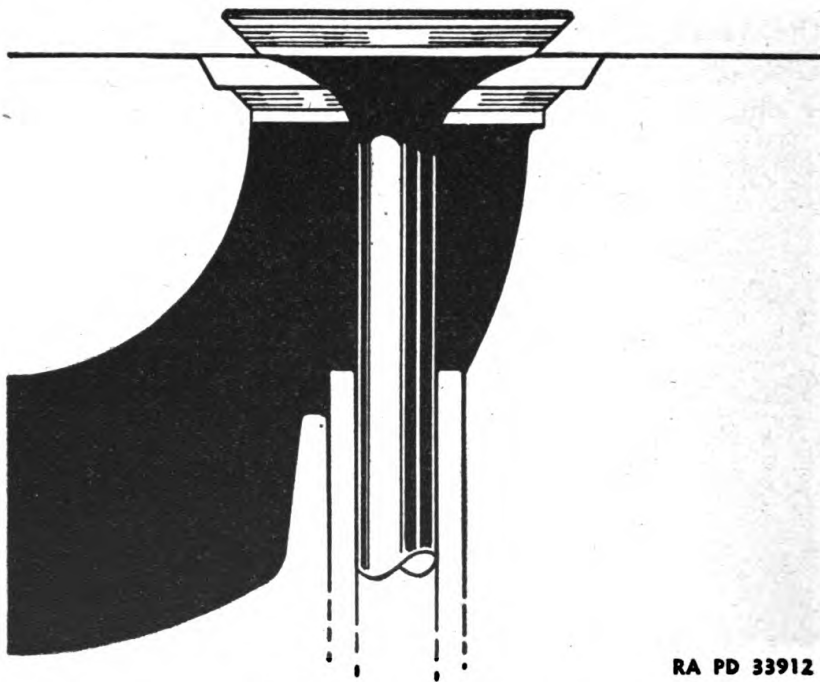

FIGURE 23.—Valve seat.
c. Valve seat widths.—Valve seats (fig. 23) in the cylinder heads are from $1\frac{1}{64}$ inch to $\frac{3}{16}$ inch wide. Originally, the seat contacted the valve in the center of the valve face or $\frac{3}{64}$ inch from the top or from the bottom of the valve face.
(1) It is unnecessary to narrow the valve seats in the head unless the seat becomes wide enough to contact within $\frac{1}{64}$ inch of the top of the valve face.